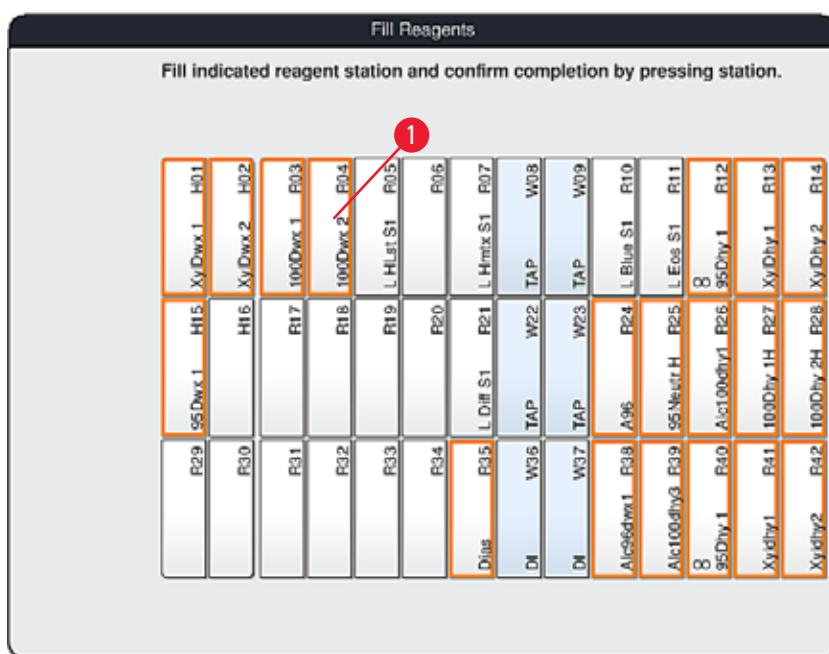

Fig. 56
2. In the new "Fill reagents" (→ Fig. 56) window, the stations to be filled are marked in orange (→ Fig. 56-1).
Only user-defined and added reagents of Leica staining programs are displayed with an orange marking (→ Fig. 56). The reagents from the Leica reagent kit are subsequently fed in (→ p. 79 – Filling the Leica reagent kit reagents).